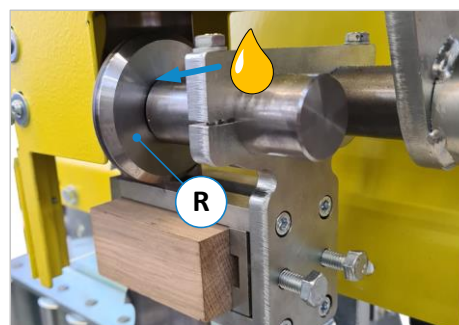

Figure 90: Lubricating the upper back roller
- For lubrication, put a few drops of the special oil into the running surface of the roller axle (see ⇒ Figure 90).